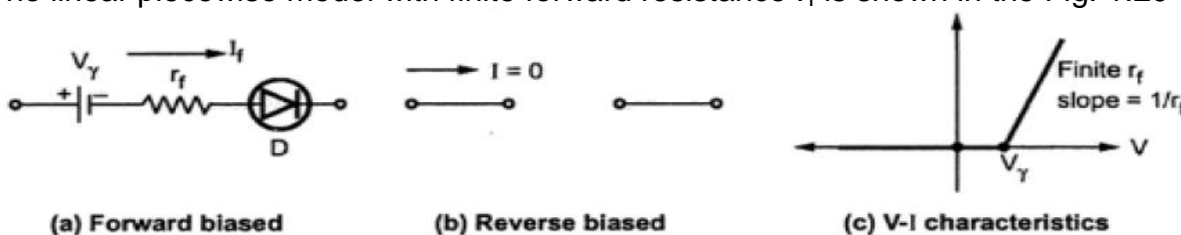

Fig. 1.20 Linear piecewise model of diode with finite r_f
- If **forward resistance** is considered to be **finite**, then forward biased characteristic is a straight line with a slope equal to reciprocal of r_f and is shown in the fig. 1.20 (a).
- In reverse bias, the diode is still assumed to be open circuited and is shown in the fig. 1.20 (b).
- The linear piecewise model with finite forward resistance r_f is shown in the Fig. 1.20 (c).